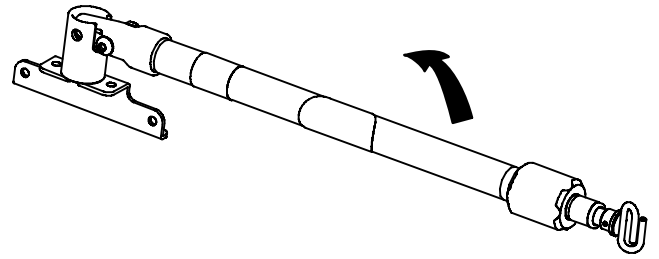

Figure 24 – Three-stage IV pole storage position
1. Lift and pivot the IV pole from the storage position. Push down until the IV pole locks into the receptacle (A).
2. To raise the height of the IV pole, turn the locking collar (B) counterclockwise and pull up on the telescoping section (C). Raise the IV pole to the desired height.
3. Turn the locking collar (B) clockwise to lock the telescoping section (C) in place.
4. For a higher IV pole, pull up on the slide section (D) until the spring clip (E) connects.
5. Hang IV bags on the IV hook (F).
6. To lower the IV pole, push in on the spring clip (E) and slide section (D) down into the telescoping section (C). Turn the locking collar (B) counterclockwise and slide the telescoping section (C) into the bottom tube.
7. Turn the locking collar (B) clockwise to tighten.
8. Lift up and pivot the IV pole down into the storage position (Figure 24).